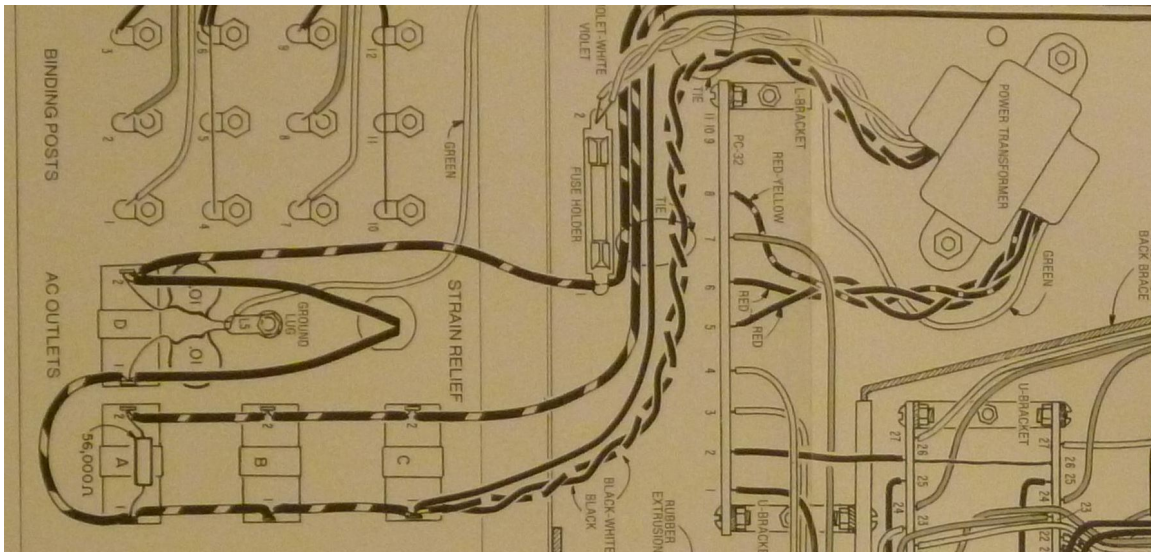

Figure 10-Original Transformer wiring
6. Solder the black wire from that end of the twisted pair to the convenience outlet terminal (outlet C, terminal 1 in Figure 10). Recall that you earlier had disconnected the black-white and black twisted pair from this terminal.